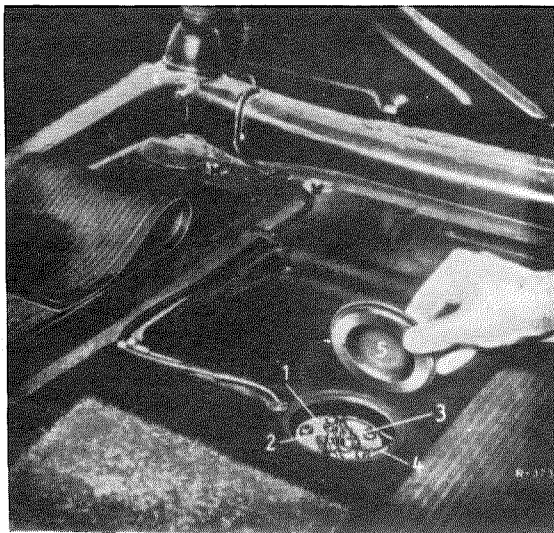

Fig. 47 — 1/1
2. Take out the rubber mat in the trunk compartment and remove the rubber cap (5) for the indicator mechanism (Fig. 47 — 1/1).